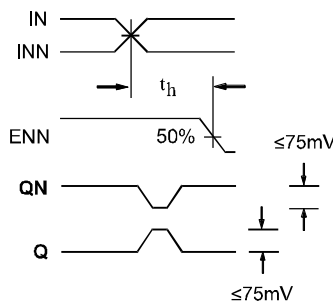

Figure 2. Hold Time
- The hold time is the minimum time that ENN must remain asserted after a negative going IN or a positive going INN to prevent an output response greater than  $\pm 75$  mV to that IN/INN transition (see Figure 2).